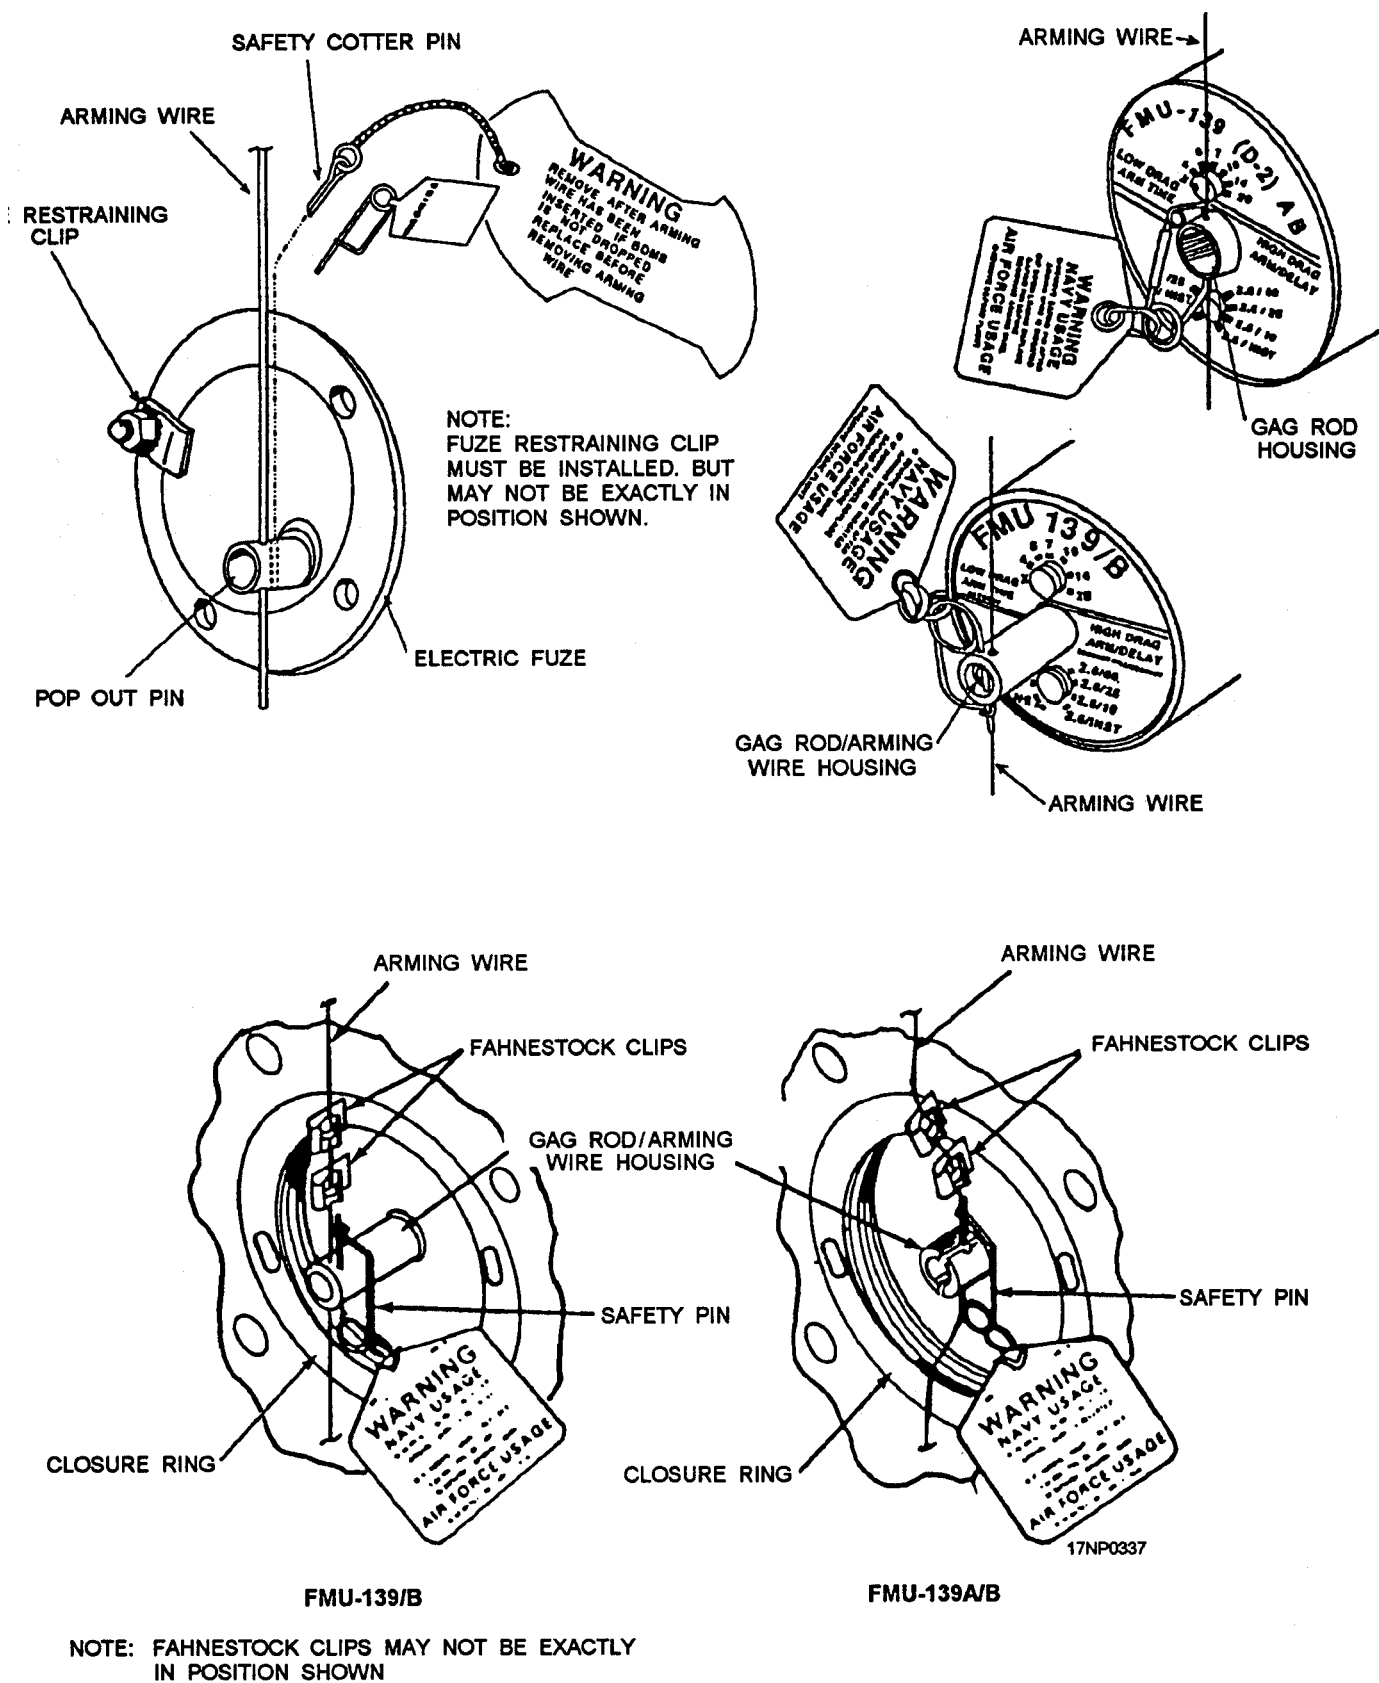

Figure 13-6.—Mk 376 and FMU-139 series electric/electronic fuze arming wire installation.
follow when working with these fuzes. Refer to figure 13-6 for arming wire installation.
10. Thread arming wire through the hole in top of the fin, and then through the fuze pop-out pin (fig. 13-6) and through the hole in bottom of fin (Mk 376).
12. Thread arming wire through two Fahnstock clips, gagrod, (fig. 13-6) and through the bottom of the fin (FMU-139/B).